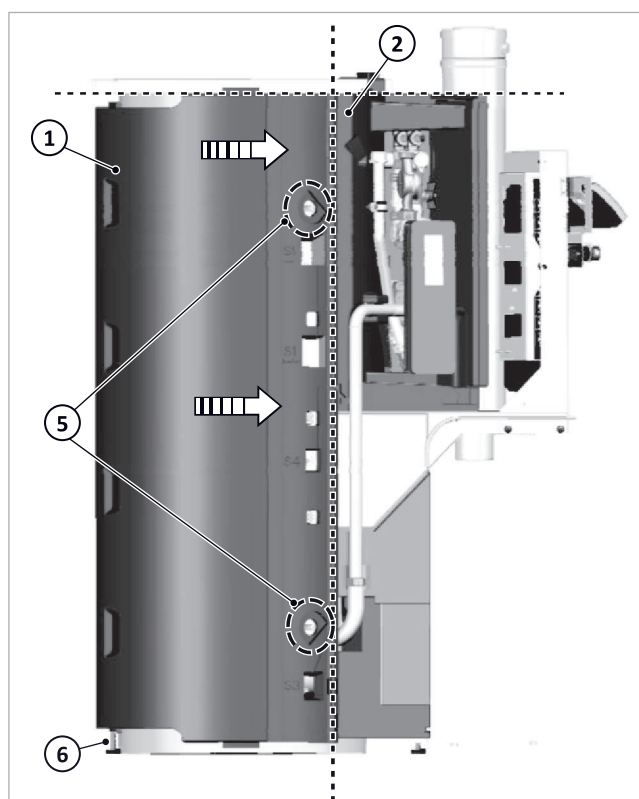

Fig. 16: Positioning the rear tank insulation
3. Use the angled washer (3) and screw (4) to fasten the tank insulation onto the tank at the top and bottom → fig. 16 (5).
- Align the straight top end of the rear tank insulation → fig. 16 (1) with the station insulation (2)
- level on the vertical to the station insulation → fig. 16 (2) and to the flange insulation.
6. Turn out the foot → fig. 16(6) until it reaches the floor.